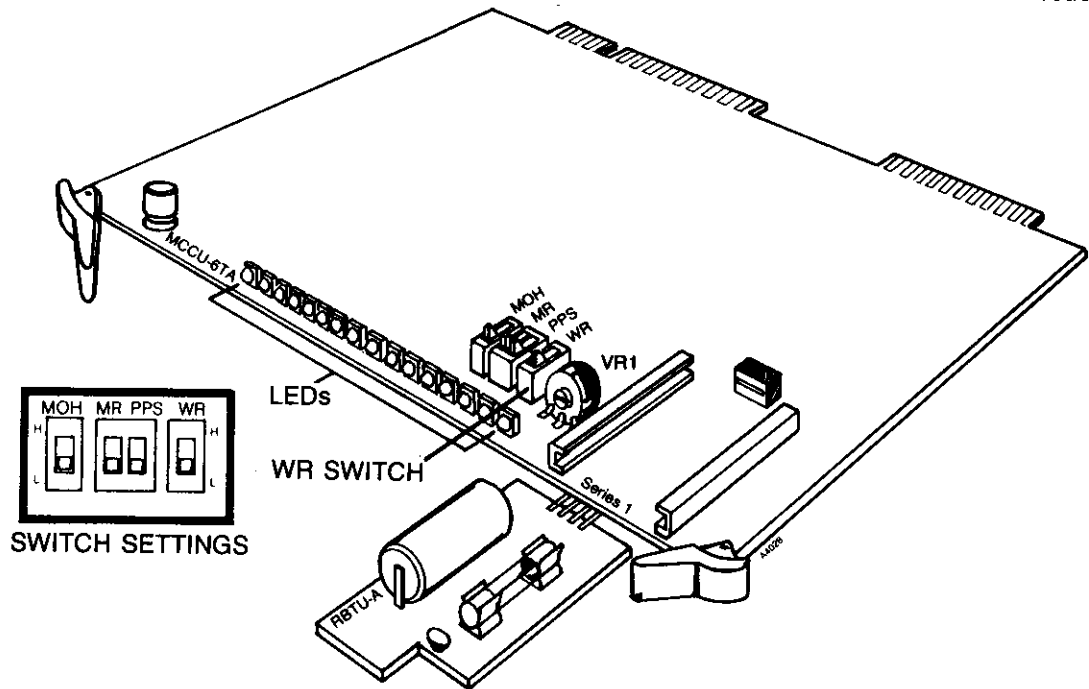

Figure 6-1 WR SWITCH LOCATION ON MCCU-6TA PCB, EK-616
1.03 Two elements used in Initialization and Programming are labeled WR. The WR switch is located on the MCCU-6TA PCB in the KSU, and the WR button is located under the designation strip of the Executive Display Key Telephone. Throughout this section, these elements will be designated WR switch (MCCU-6TA PCB) and WR button (Executive Display Key Telephone), Figures 6-1 and 6-2 respectively.
- The WR switch (MCCU-6TA PCB—Figure 6-1) must be set to H.
- The WR switch (MCCU-6TA PCB) must be in the L position (see Figure 6-1, inset).